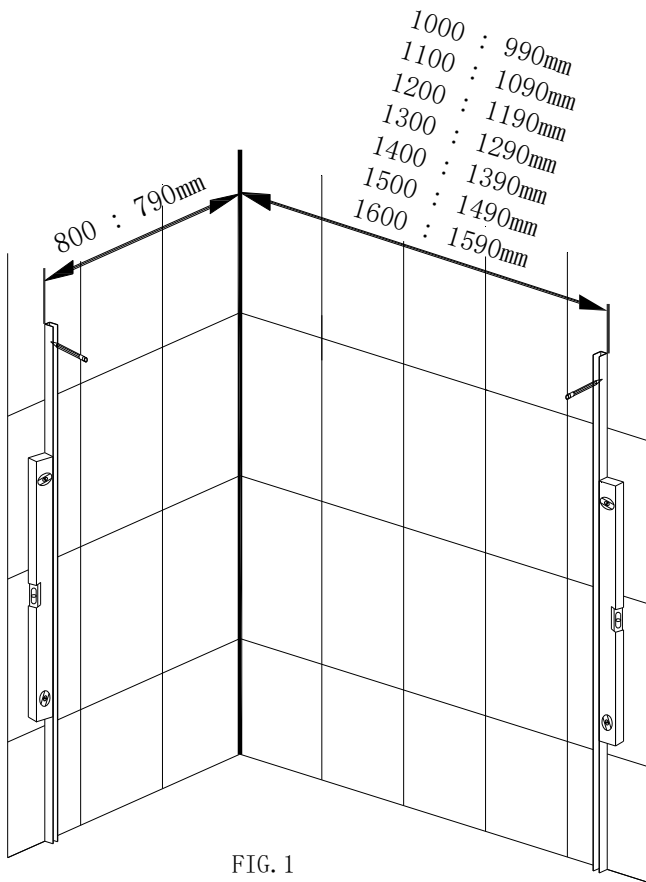

FIG. 1
- 1) Put the wall connecting profiles (2) on the wall or on the shower tray, adjusting the profiles to make sure it is vertical. Mark the holes on the wall. As Fig. 1